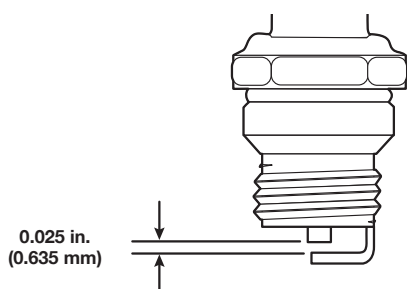

Fig. 45
- Use a feeler gauge to set the air gap at 0.025 in. (0.635 mm)(Fig. 45).